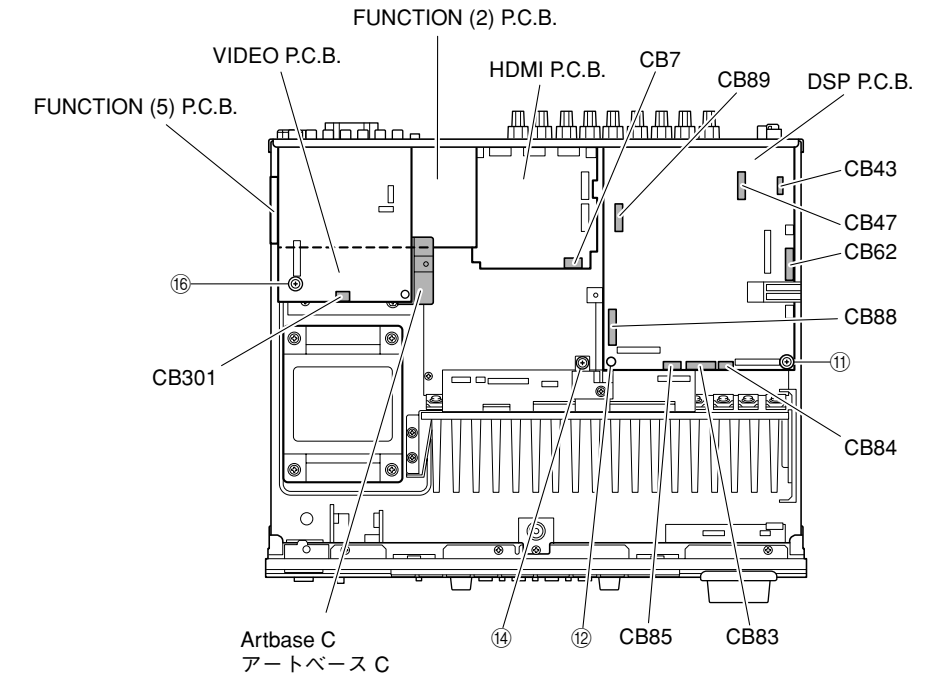

Fig. 3
- a. Remove screw (11) and push rivet (12). (Fig. 3)
- c. Remove CB43, CB47, CB62, CB83-85, CB88 and CB89. (Fig. 3)
- d. Remove the DSP P.C.B.. (Fig. 3)
- a. ⑪のネジ1本、⑫のプッシュリベット1本を外します。(Fig. 3)
- c. CB43、CB47、CB62、CB83-85、CB88、CB89を外します。(Fig. 3)
- d. DSP P.C.B.を取り外します。(Fig. 3)
- Remove screw (14). (Fig. 3)
- Remove CB7. (Fig. 3)
- Remove the HDMI P.C.B.. (Fig. 3)
**7. Removal of VIDEO, FUNCTION (2) and (5) P.C.B.s**
- Remove screw (16). (Fig. 3)
- Remove CB301. (Fig. 3)
- Remove the VIDEO, FUNCTION (2) and (5) P.C.B.s together with artbase C. (Fig. 3)